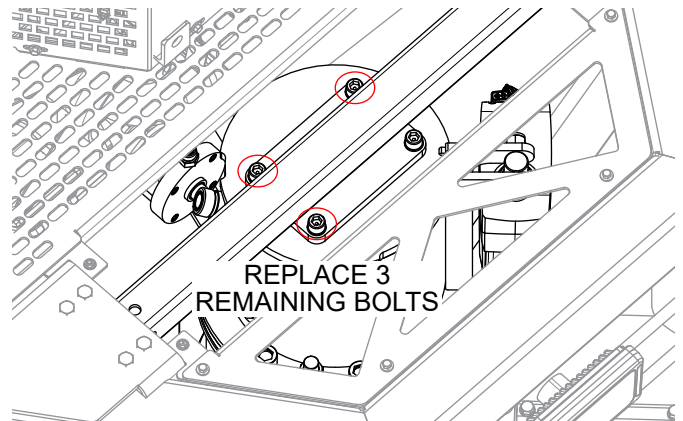

Figure 10. Replace 3 Remaining Trunnion Bolts
- Repeat steps 1–5 for each of the three remaining left-side trunnion bolts (Figure 10).